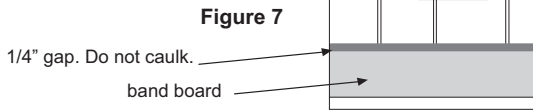
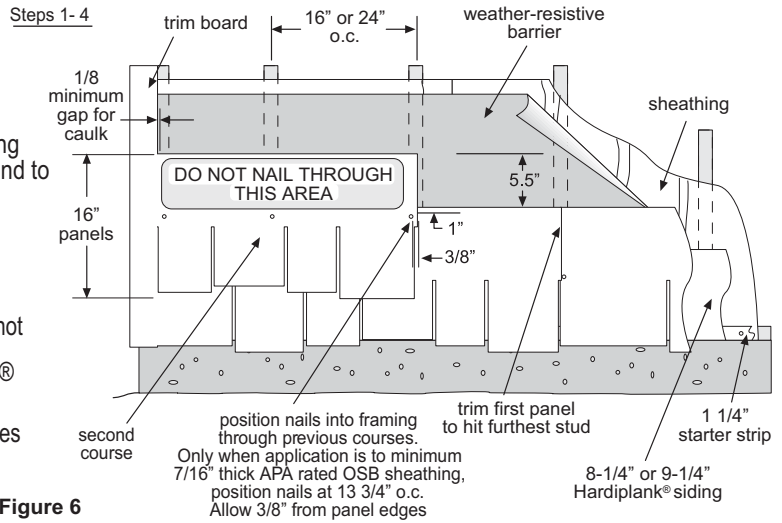

Figure 7
Figure 6
Install Hardishingle notched panels with joints butted in moderate contact. Due to overlapping of the joints, caulk is not required except where panels abut trim boards. (Figures 6 & 8). Ensure keyways do not line up on subsequent courses.
- 2) Trim the first panel from the end abutting trim (the left side in figures 6 & 8) to hit the furthest stud. When installing over a band board, trim the bottom of the panel to create a straight edge, leave 1/4" gap between bottom of siding and flashing (Figure 7).